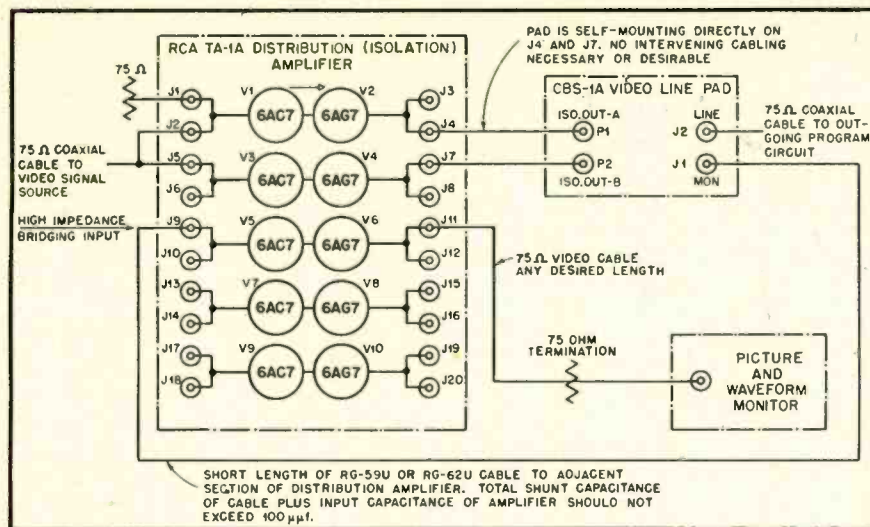

Fig. 3. Installation details for video line pad when employed in conjunction with a widely used type of distribution amplifier.
A schematic diagram of the CBS 1-A Video Line Pad is given in Fig. 2. The block diagram of Fig. 3 shows the connection of the pad to a distribution amplifier.
In Fig. 3, P_1 and P_2 of the pad mate with J_4 and J_7 , respectively, of the amplifier, thus paralleling these channels. At the lower range of video frequencies the effects of L_1 , C_1 , C_2 and C_3 of Fig. 2 upon operation are negligible and the circuit reduces to the simple resistance combination of R_1 , R_2 , R_3 , R_4 and R_5 .
R_5 , in conjunction with the shunting effect of R_3 and the plate-circuit impedance of the parallel 6AG7 triode stages, V_2 and V_4 of Fig. 3, provides the desired net resistance of approximately 75 ohms as seen looking into the pad from the line feed-point J_2 .
The installation of the video line pad in a location where two distribution amplifier sections have previously been paralleled to provide a 75-ohm nominal source impedance is very simple. Figure 3 shows a typical arrangement in which the pad may be used to feed any 75-ohm outgoing line simultaneously with a remotely-located picture and waveform monitor.
In cases where the picture and waveform monitor is located within a few feet of the pad, the installation will be even simpler, in that the monitor may be bridged directly across the output of the pad, without the necessity for the intervening distribution amplifier section shown in Fig. 3.
Fig. 4 (left). Combined response-frequency characteristics of video line pad and distribution amplifier, when used in the arrangement shown in Fig. 3. Combined bandwidth is nearly as great as that of the distribution amplifier alone. Fig. 5 (right). Output-impedance versus frequency characteristics of video line pad when used in the arrangement of Fig. 3. For comparative purposes, there is also shown the output impedance of a commonly used arrangement of two parallel-connected distribution amplifiers shunted by a 75-ohm resistor. The output impedance of the line-pad arrangement is seen to be closer to the desired value of 75 ohms at nearly all frequencies.
In normal usage it should not be necessary to change any of the controls on the video line pad after initial alignment in a given installation. The following detailed alignment procedure is based upon the installation shown in Fig. 3, but is equally applicable to other arrangements.
2. Leaving the outputs paralleled through the line pad, but temporarily removing the jumper which normally parallels the two inputs, feed a 60-cps square-wave signal into one of the two paralleled distribution-amplifier sections (for example, feed the signal into J_1 of Fig. 3 with J_2 temporarily disconnected). Adjust the input square-wave amplitude at J_1 of the distribution amplifier to 2-volts, peak-to-peak. Adjust the gain and low-frequency-phasing controls of the active amplifier section until a 1-volt, tilt-free, signal is observed at the line output (J_2 of CBS 1-A pad).
Measurements upon a typical video line pad installation such as shown in Fig. 3 have shown that the frequency response to both line and monitor circuits can be made completely uniform up to 7 mc with a drooping characteristic above that frequency. Figure 4 shows a typical frequency response curve of the CBS 1-A pad in combination with an RCA type TA-1A Distribution Amplifier. Amplitude linearity characteristics of the distribution-amplifier-pad combination are essentially the same as those of the distribution amplifier alone.
The image orthicon studio camera is located in a small studio (shown in *Fig. 2*), complete with lighting equipment and the other facilities necessary for the production of small television shows. The camera is mounted on a movable dolly which allows the cameraman to adjust the elevation of the camera or to move it about the studio floor to obtain views from different angles and distances. An electronic viewfinder is incorporated in the camera, permitting the cameraman to view the picture being televised. The camera control and monitor are located in the control room in the extreme right console section as shown in *Fig. 3*. The signal source has been very useful—particularly for the presentation of demonstration programs to customers, and for the investigation of new camera circuits and studio lighting techniques.
makes it possible to feed one film camera with any one, or with any combination of three optical images without changing the physical location of either the projectors or the camera. The three picture sources consist of a 35-mm film projector, a 16-mm film projector, and a 2" x 2" slide projector for transparencies. The control rack shown in the background of *Fig. 4* contains a video monitor, a projector control panel, and a power supply for the pulsed light source on the 35-mm projector. The video monitor may be switched by the projectionist from the film-camera output to any one of three predetermined signals for video cueing purposes. The projector control panel provides facilities for remote starting or stopping of either film projector or for effecting an optical changeover between projectors. The slide projector lamp may be turned on or off or its brightness controlled from this panel also. The film-camera control and monitor are in the second console section from the right in *Fig. 3*. These film facilities permit the testing of new ideas and improvements on equipment identical with that in general use. They also make possible experimentation with new film-camera tubes, and provide film pictures for use in demonstration programs for customers.